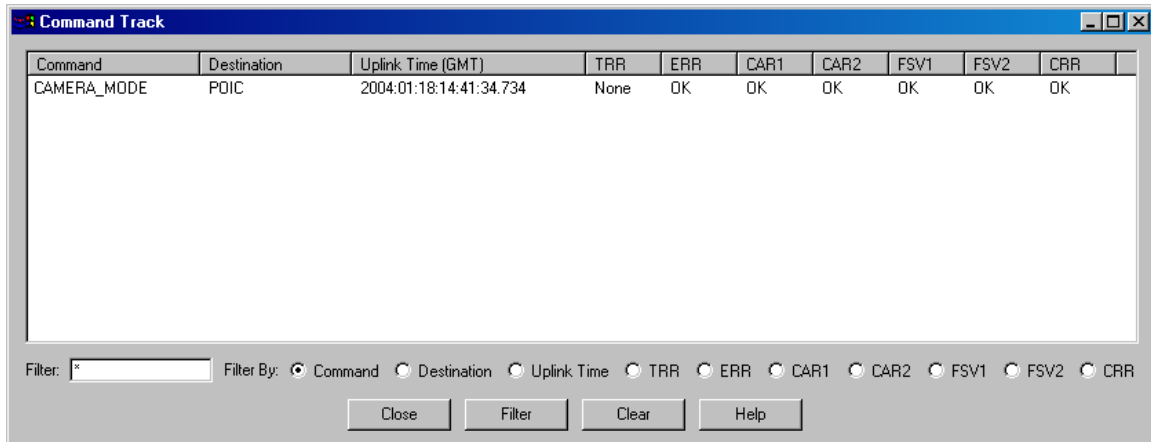

Figure 30 Command Track Dialog
5. Go to the **Command** menu and select the **Command Track** menu item. The dialog shown in Figure 30 will be displayed. This dialog shows the complete list of commands (and command responses) that have been sent from your TReK system. The Command Track area in the Command Processing main window is configured to show 5 commands at any one time. However, the Command Track dialog will show all commands sent unless you limit the list by using the filter. (Note: You can configure the Main Window Command Track area by using the Set Main Window Command Track Preferences option which is available from the View menu).